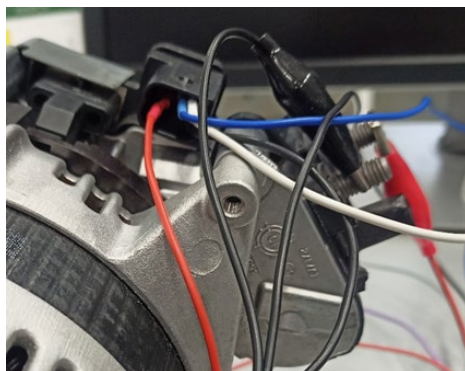

Figure 28. Connecting the diagnostic cable to the connector terminals
2.1. Connect the required wires to the alternator connector terminals (see Fig. 28).